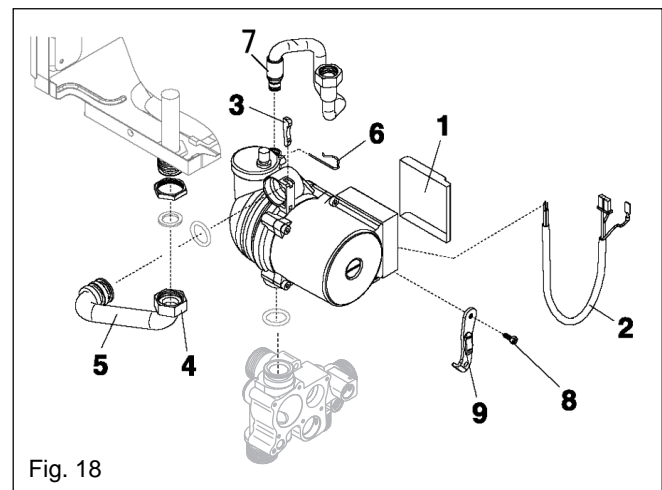

Fig. 18
6.5 PUMP ASSEMBLY (see fig. 18)
6.7 AUTOMATIC AIR RELEASE VALVE (see fig. 18) (AAV)